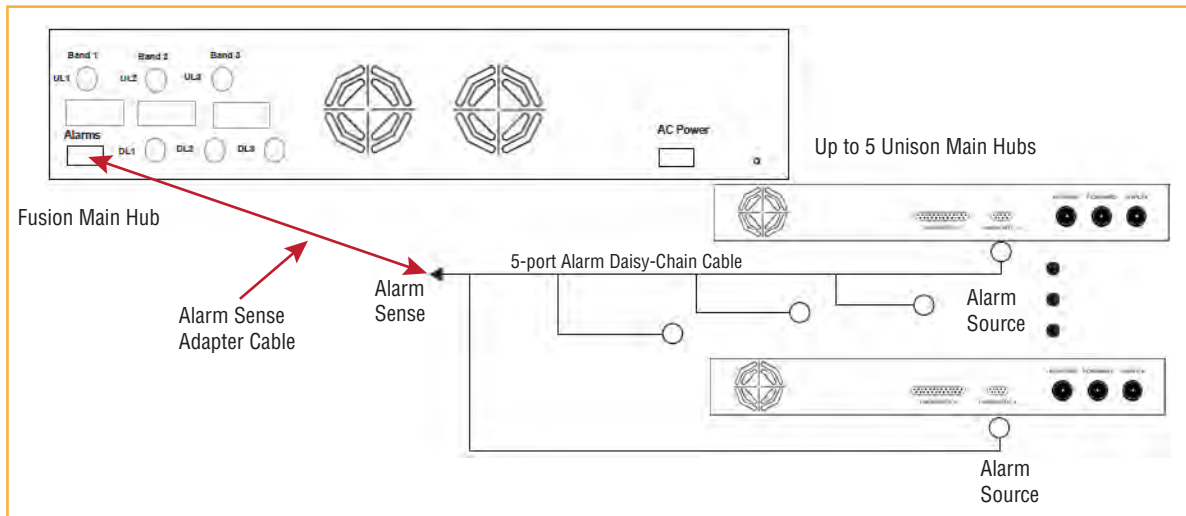

Figure 49. Using Fusion Wideband to Monitor Unison
When you connect Unison to Fusion Wideband, the Fusion Wideband Main Hub is the input of the alarms (alarm sense) and the Unison is the output (alarm source), as shown in Figure 49. The input alarm sense needs to be set to normally closed (NC).